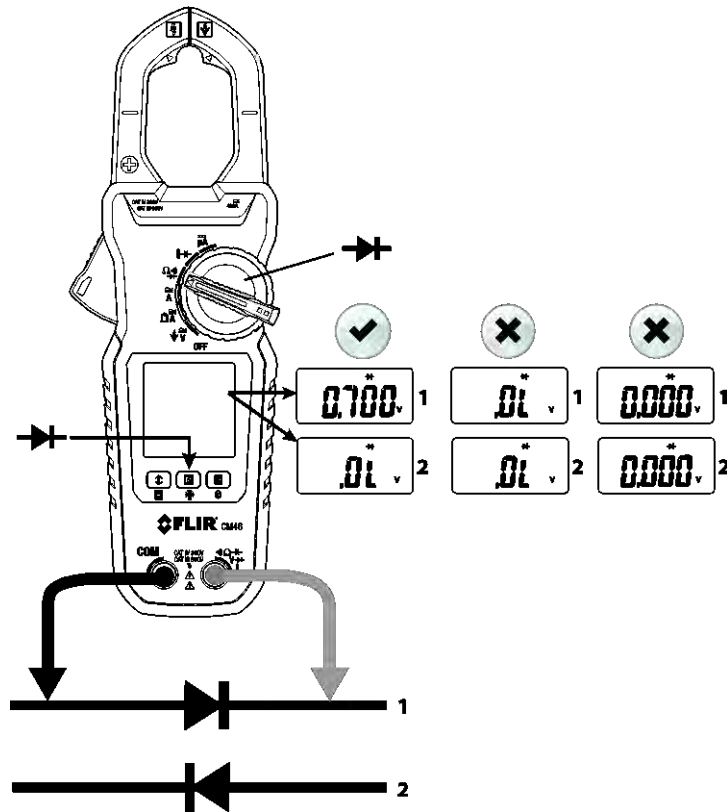

Figure 5-9 Diode Tests
4. Touch the tips of the probe across the diode or semiconductor junction under test (see Fig. 5-9).